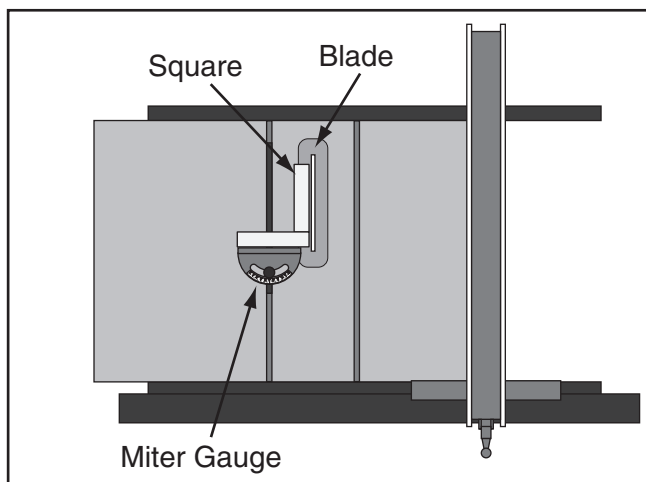

Figure 123. Checking 90° stop on miter gauge.
5. Place the square evenly against the face of the miter gauge and the blade, as shown in **Figure 123**.